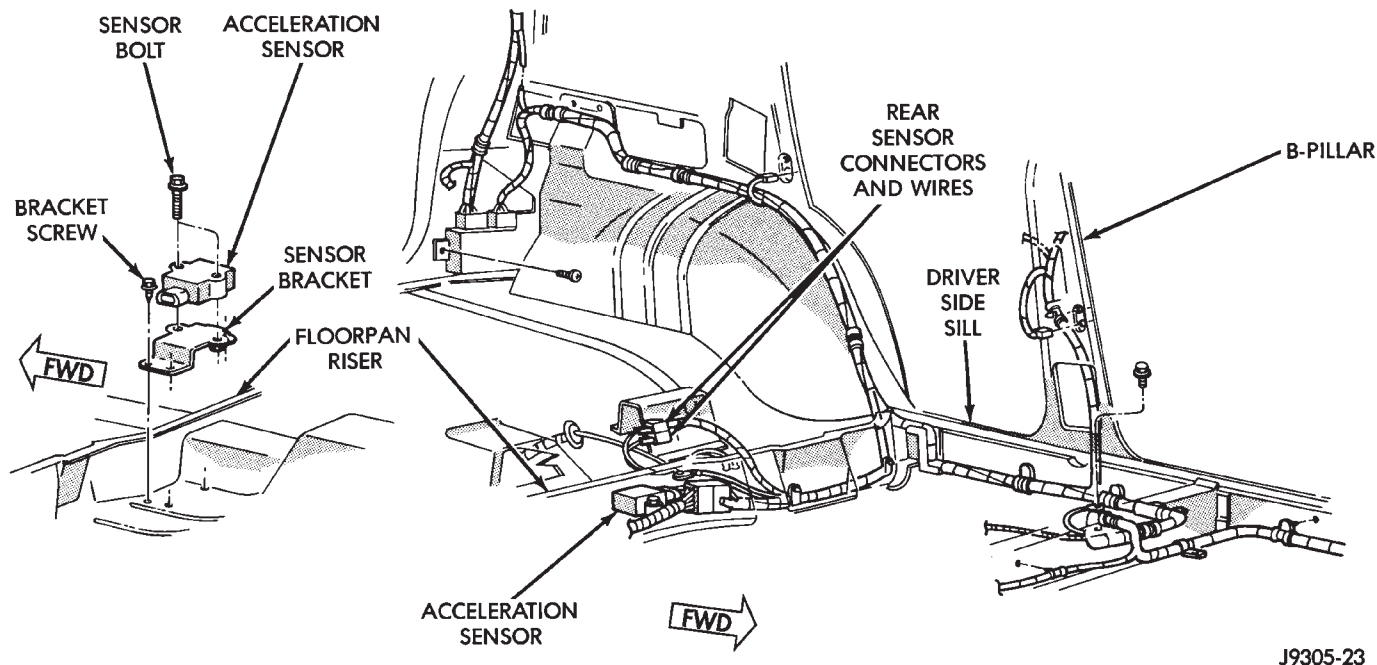

Fig. 25 Acceleration Sensor Mounting
- Disconnect sensor harness (Fig. 25).